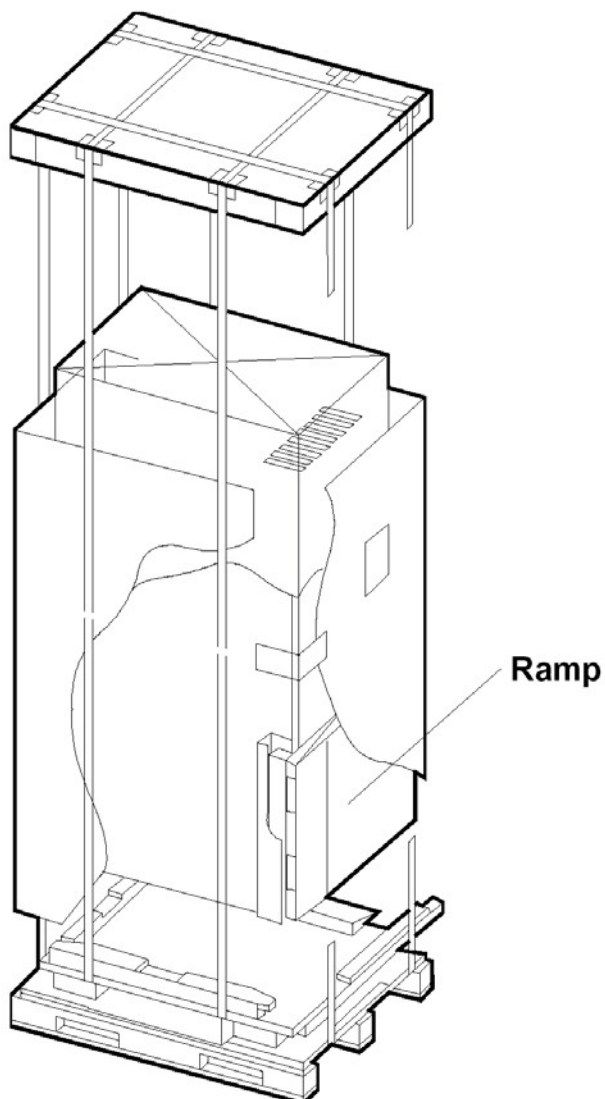

Figure 14 Lifting the Packing Lid Off
- 1 Cut the poly strap bands around the shipping container. See Figure 14.